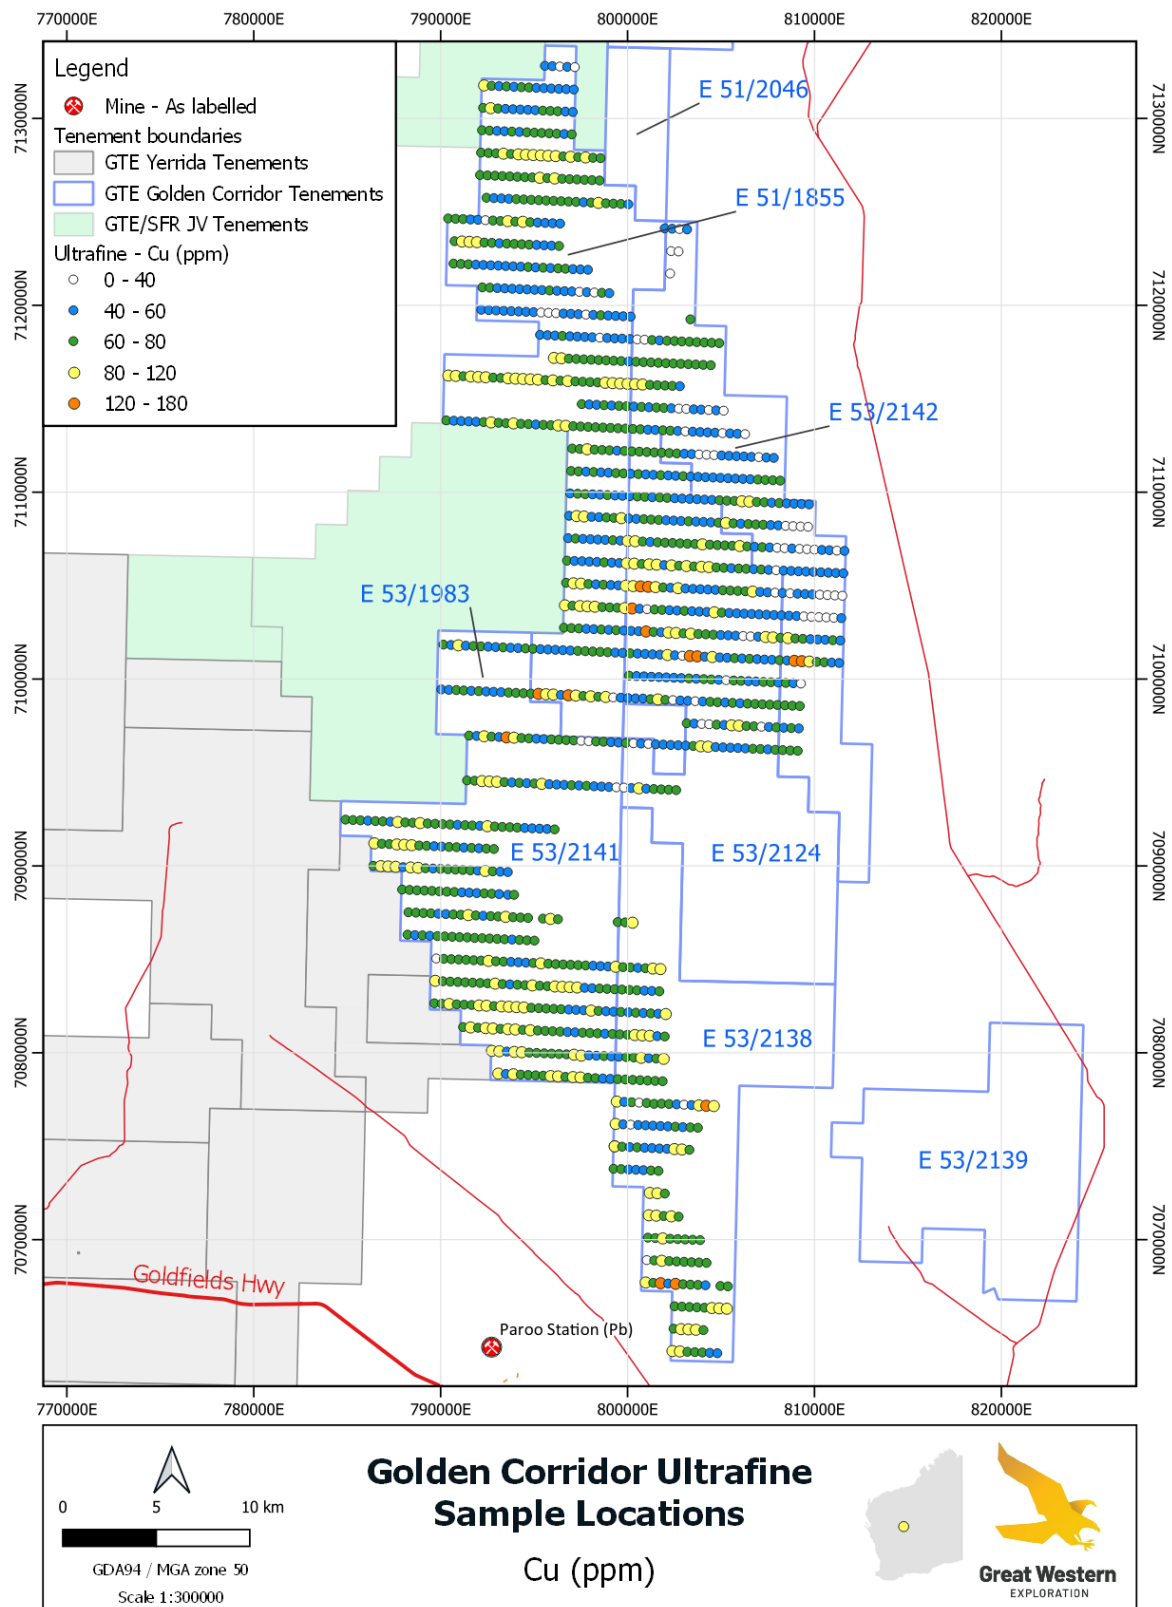
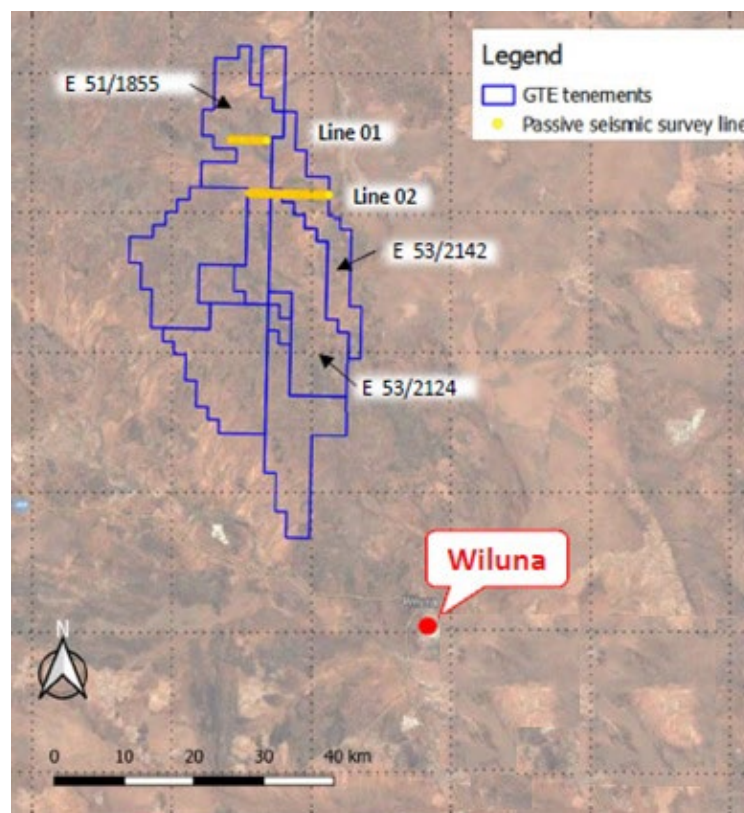

Figure 5. Golden Corridor Ultrafine+ soil sample locations with copper assays
Figure 6. Location of Passive Seismic survey lines at the Golden Corridor Project
A total of 84 HVSr station recordings were acquired along 2 survey lines located within exploration licenses E 51/1855, E 53/2124 and E 53/2142 (see **Figure 6**). The data were acquired using Tromino® seismometers. The passive seismic HVSr survey raw data was sent to Resource Potentials Pty Ltd ("ResPot"), who then carried out data QA/QC, editing, final data processing and depth conversion, with HVSr amplitude-depth cross-sections generated for both survey transects (Figure 5). Drilling data from historical reverse circulation (RC) drillholes located near HVSr Line 01 were supplied by GTE, which assisted with shear wave velocity analysis required for the depth conversion process. The HVSr cross sections have highlighted an undulating acoustic impedance contrast interface response or "acoustic bedrock" on both survey lines, which is interpreted to be an erosional unconformity forming the interface between Cainozoic regolith and indurated Proterozoic rock units in the west, and an interface between Proterozoic rock units and Archean basement in the eastern portion of survey Line 01. Modelled depths to the acoustic bedrock range from 18 m to 106 m, where the deeper zones are interpreted to be caused by incised paleochannels filled with sediments, and there is an overall average cover thickness of 42 m across both survey lines (see **Figure 7**).